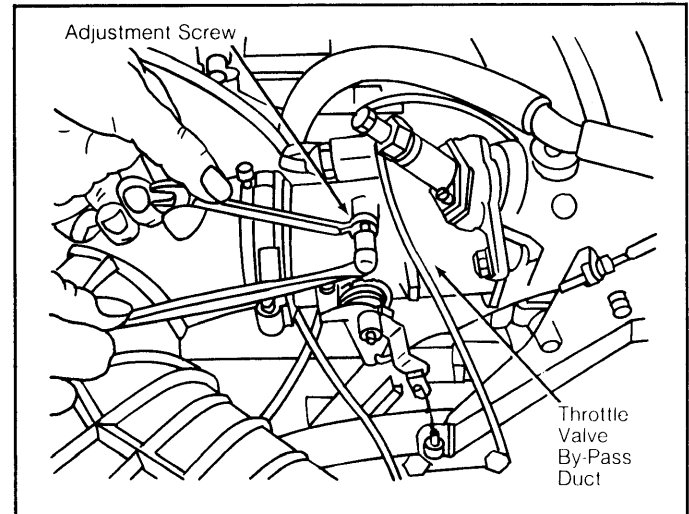

Fig. 3: Adjusting Idle Speed
**1975-79 Models** – 1) Remove thick hose at charcoal canister. On vehicles with air injection, remove and plug hose from air pump. On all models with Lambda system, disconnect oxygen sensor. DO NOT allow wire from oxygen sensor to touch an engine or chassis ground. 2) With engine at normal operating temperature, adjust idle speed to specifications by turning adjusting screw on throttle valve by-pass duct. See Fig. 3.